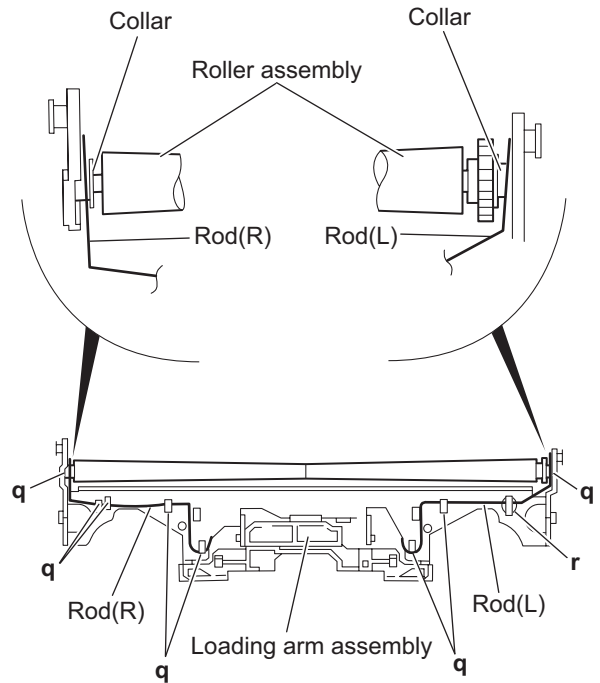

Fig.15
3.4.8 Removing the rod (L)(R)/roller assembly (See Figs.15 and 16)
- (1) Release the rod (L) and (R) from the joints **q** at the bottom of the loading arm assembly. (See Fig.15.)
After attaching the loading arm assembly to the roller assembly, attach the rod (L) and (R). Attach the rods to the right and left collars of the roller assembly. (See Figs.15.)
When reattaching the rod (L) and (R) to the loading arm assembly, engage each joints **q** as shown in Fig.15. As joints **r** of the rod (L), let the rod through **r** before reattaching it.